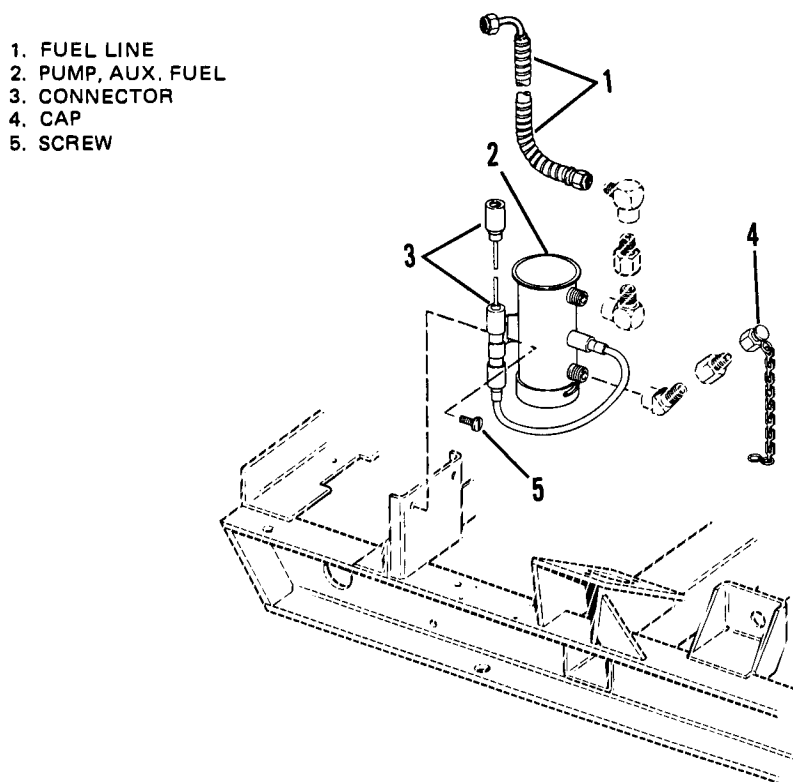

Figure 4-23. Auxiliary Fuel Pump.
4-35. AUXILIARY FUEL PUMP. (See Figures 4-23 and 4-24)
- b. Service. Every 6 months (or 500 operating hours), clean or replace the internal filter (4) of the auxiliary fuel pump. To do this, follow the removal procedures below, and steps (a and b) of the disassembly procedures.
- (1) Remove ground rods to gain access to fuel pump (refer to paragraph 4-20).
- (2) Disconnect fuel pump electrical connector (3).
- (3) Disconnect fuel line (1, Figure 4-23) from fuel pump (2).
- (4) Remove cap (4).
- (5) Remove screws (5) and fuel pump (2).
- (a) Moisten the plunger assembly and tube with engine oil. Insert the plunger assembly (10) in the tube with the buffer spring end first. Check fit by slowly raising and lowering the plunger in the tube. It should move fully without any tendency to stick. If a click cannot be heard, the interrupter assembly is not functioning properly in which case the pump should be replaced.
- (b) To complete the assembly, install the plunger spring (9), cup valve (8), O-ring seal (7) and washer (6) as shown. Compress spring (9) and assemble retainer (5) with ends of retainer in side holes of tube (11).
- (c) Place cover gasket (2) and magnet (3) in bottom cover (1) and assemble filter (4) and cover assembly. Twist cover by hand to hold in position on pump housing. Tighten bottom cover with a wrench.
- (1) Secure fuel pump (2, Figure 4-23) to frame with screws (5).
- (2) Install cap (4).
- (3) Reconnect fuel line (1) to fuel pump (2).
- (4) Connect fuel pump electrical connector (3).
- (5) Reinstall ground rods (refer to paragraph 4-20).